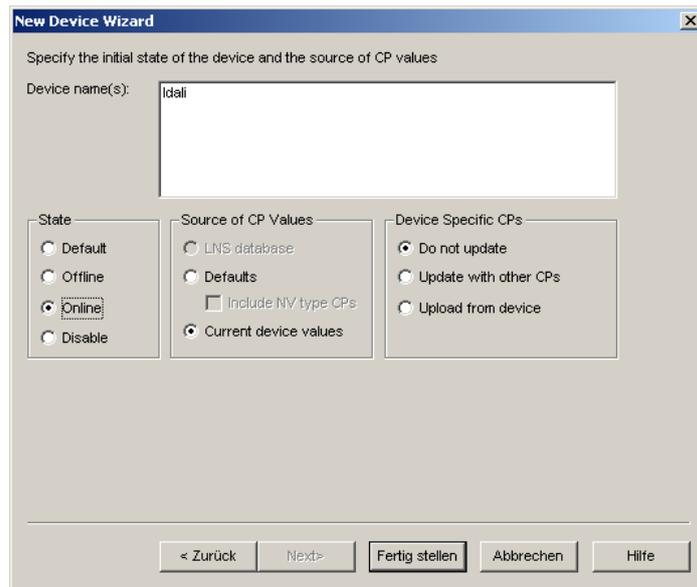

Figure 131: Final dialog.
7. Click **Next** in the following screens until you get to the final dialog shown in Figure 131.